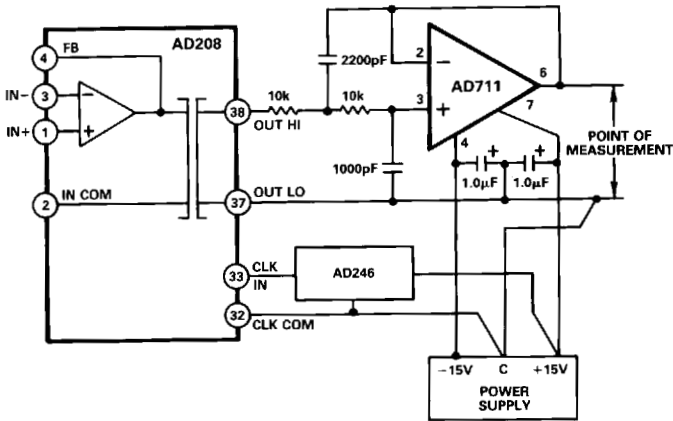

Figure 30. Output Filter Circuit Showing Proper Grounding
**Output Filter Circuit.** Except at the highest useful gains, the noise seen at the output of the AD208 will be almost entirely comprised of the carrier ripple at multiples of 25 kHz. The ripple, when measured over a 100 kHz noise bandwidth, is typically 2 mV pk-pk near zero output and increases to approximately 7 mV pk-pk for outputs of  $\pm 5$  V. The simple two-pole, 5 kHz low-pass Butterworth filter of Figure 30 can be used to reduce the output ripple of the AD208 to approximately 0.1 mV pk-pk and serve as an output buffer for the AD208.
An output buffer or filter may sometimes exhibit voltage spikes on the output even though none were present on the input signal to the buffer/filter. These spikes are usually due to clock noise appearing at the op amp's power supply pins, since most op amps have little or no supply rejection at high frequencies. Another common source of clock-related noise is from the sharing of the ground track by both the output circuit and the power input. The circuit of Figure 30, shows how to avoid these clock noise related problems.
Ideally, the output signal LO lead and the supply common should be tied together at the final signal measurement point as indicated in Figure 30. It may be useful to bypass the output LO to the output common with a 0.1  $\mu\text{F}$  capacitor should the measurement point be more than a few feet from the isolator.